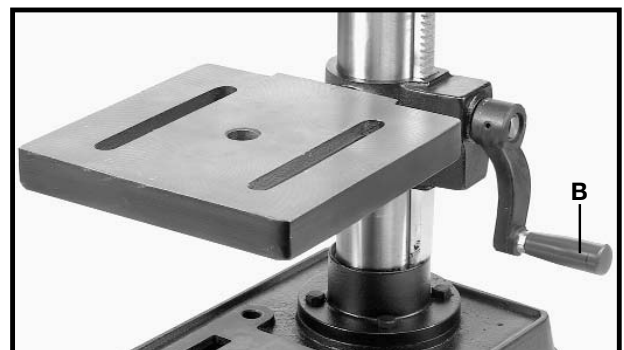

Fig. 21
1. The table can be raised or lowered on the drill press column by loosening the table clamp (A) Fig. 20, and turning the table raising and lowering handle (B) Fig. 21. After the table is at the desired height, tighten clamp (A) Fig. 20. **NOTE:** Final positioning of the drill press table should always be from the bottom to the top position.